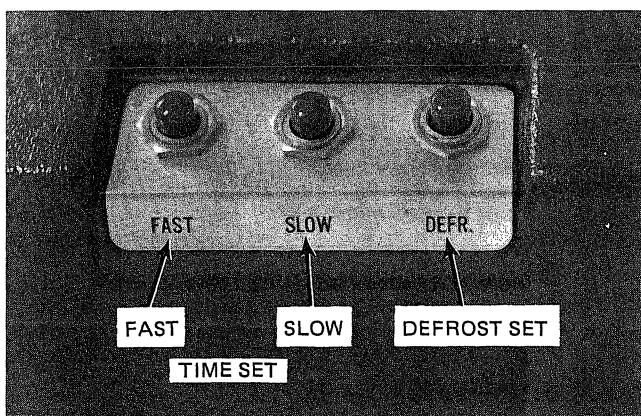

Figure 7
1. Press either "FAST" or "SLOW" pushbutton to advance the displayed time, Figure 7, located at rear of the cabinet.
1. Depress and hold "DEFR" button, located at right rear of the cabinet, Figure 7.